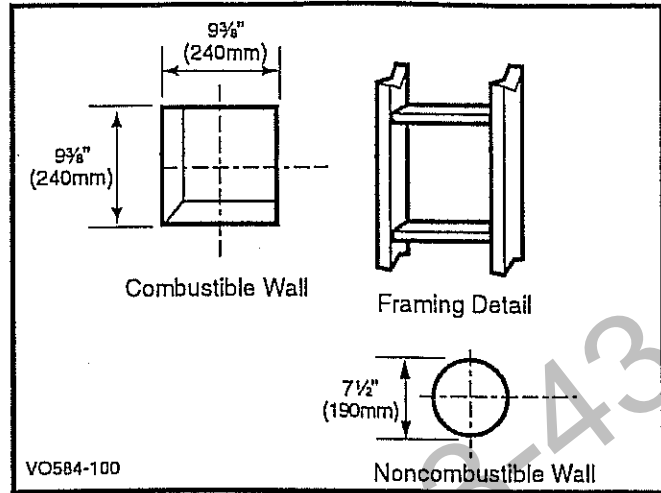

Fig. 44 Locate vent opening.
1. Locate the vent opening on the wall. Be sure that the vent termination meets all clearance requirements noted on pages 11-13. It may be easiest to first position the stove and test fit the vent components to determine the wall opening centerline. Depending on whether or not the wall is composed of combustible materials, cut the opening to the size shown in Figure 44. Combustible wall openings must be framed in as shown in Figure 44.
Combustible wall openings must be framed in as shown in Figure 44.